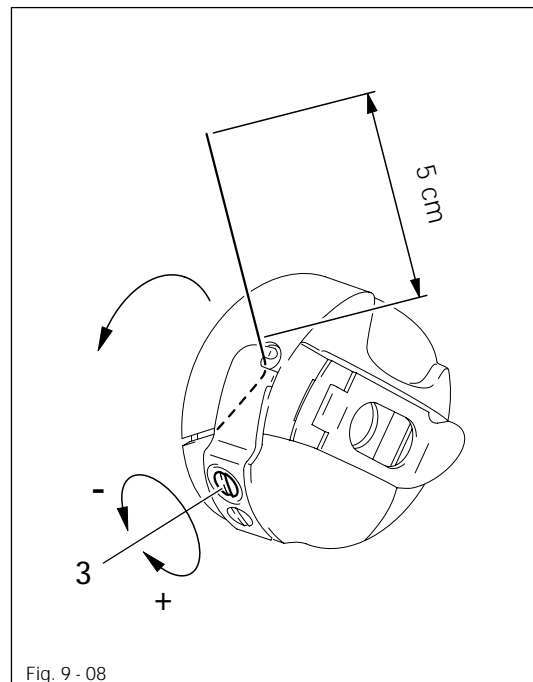

Fig. 9-08
- Pull the thread through the slot and under the spring as shown in Fig. 9-08.